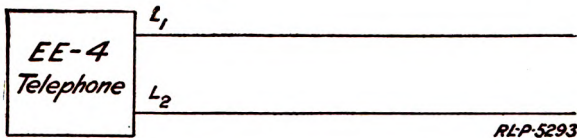
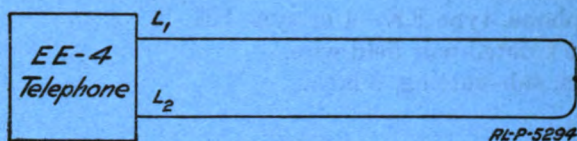

Fig. 9.—Type EE - 4 telephone connected to open circuit
Fig. 10.—Type EE-4 telephone connected to shorted circuit
The generator crank of either type telephone will always turn easily on open circuit (see Fig. 9) and hard on short circuit (see Fig. 10).
1. Connect one end of a twisted-pair wire to the  $L_1$  and  $L_2$  terminals of the EE - 4 telephone, as shown in Fig. 9, and turn the generator crank. Note whether the crank turns easily or hard and whether or not the bell rings.
2. Short the free end of the twisted pair as shown in Fig. 10 and again turn the generator crank.